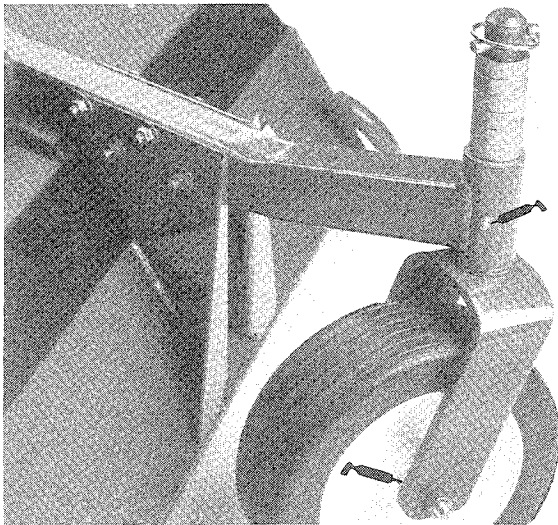
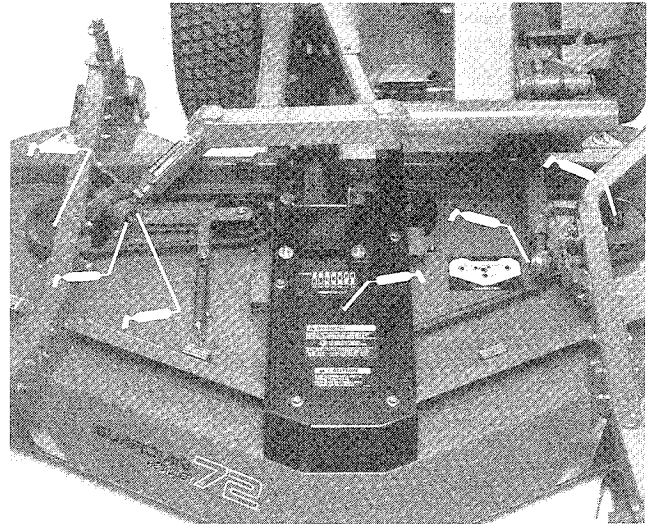

Figure 13
Figure 15
GREASE BEARINGS, BUSHINGS AND GEAR BOX (Fig. 13–16)
1. The cutting unit has bearings and bushings that must be lubricated, and these lubrication points are: front castor spindle bushings (Fig. 13); castor wheel bearings (Fig. 13 & 14); blade spindle bearings (Fig. 15); idler arm pivot (Fig. 15) and right and left push arm ball joints (Fig. 15).